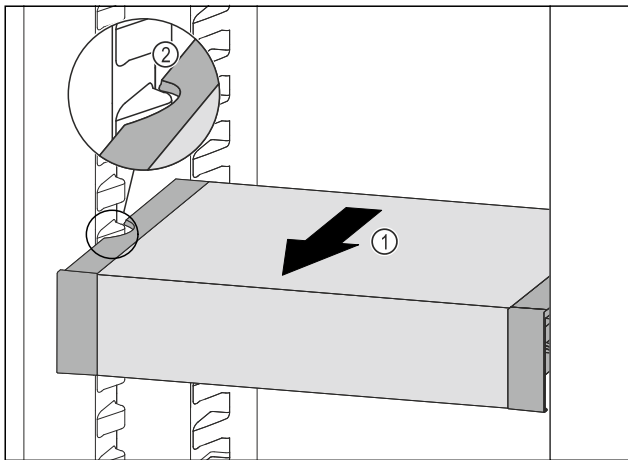

Fig. 113
- Pull VarioSafe forwards Fig. 113 (1) until the recesses in the side of the VarioSafe are at the level of the support rib in the fridge section. Fig. 113 (2)